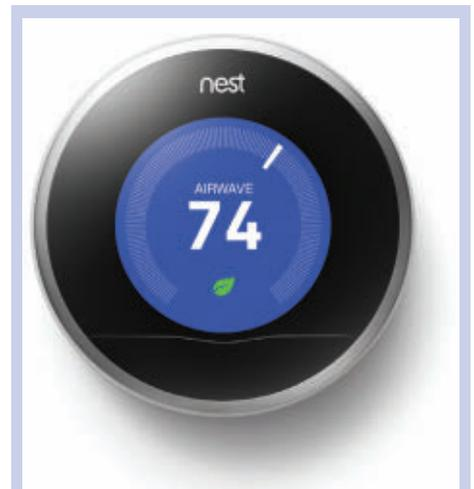

Figure 2. The Nest thermostat is a popular IoT product using Wi-Fi that lets you control and monitor your HVAC remotely.
Figure 2: The pallet is a 10 inch square of 1/4" Coroplast and the spacer is made from a sheet of the thinner 3/16" thick Coroplast that was cut, folded, and taped together. Most glue will not adhere to polypropylene, so I resorted to taping the ends of the Coroplast together. The spacer stands four inches tall.
The name for the corrugated plastic used for the pallets and spacers is Coroplast, and it's available in some hobby shops and most plastic shops. The plastic used in Coroplast is Polypropylene — a plastic that has a slick surface that's difficult to glue anything to. However, Coroplast is very stiff and lightweight. The avionics and experiments are bolted to the pallets which are made from 1/4" thick Coroplast. Normally, I just use 3/16" thick Coroplast in my airframes, but the 1/4" thick variety is significantly stiffer and will stand up better when heavier items are bolted to it. I used 3/16" thick Coroplast for the spacers since they're turned edge up and very resistant to flexing and bending in this orientation. **Figures 2 and 3** show a spacer and the stacked pallets and spacers.
base through guide holes on the sides. Two sidecars are connected to each other with a rubber band as mentioned. The design has two pieces: a base to hold the breadboard and the sidecar which can slide in from either side. This requires three objects to print: one base (Figure 2) and two sidecars (Figure 3). Each 3D design has pads on the corners to help hold them down to the platform of your 3D printer. You can get the same effect with adding a brim or a raft. The idea is
■ FIGURE 2. Breadboard base.
is one key target (**Figure 2** is a good example). So are major appliances like the refrigerator, the washing machine, or the coffee maker. The reason for the interconnection has yet to be determined in some cases, but as an example, the refrigerator may report its physical status back to the manufacturer or you may want to be able to turn the coffee maker off or on remotely.